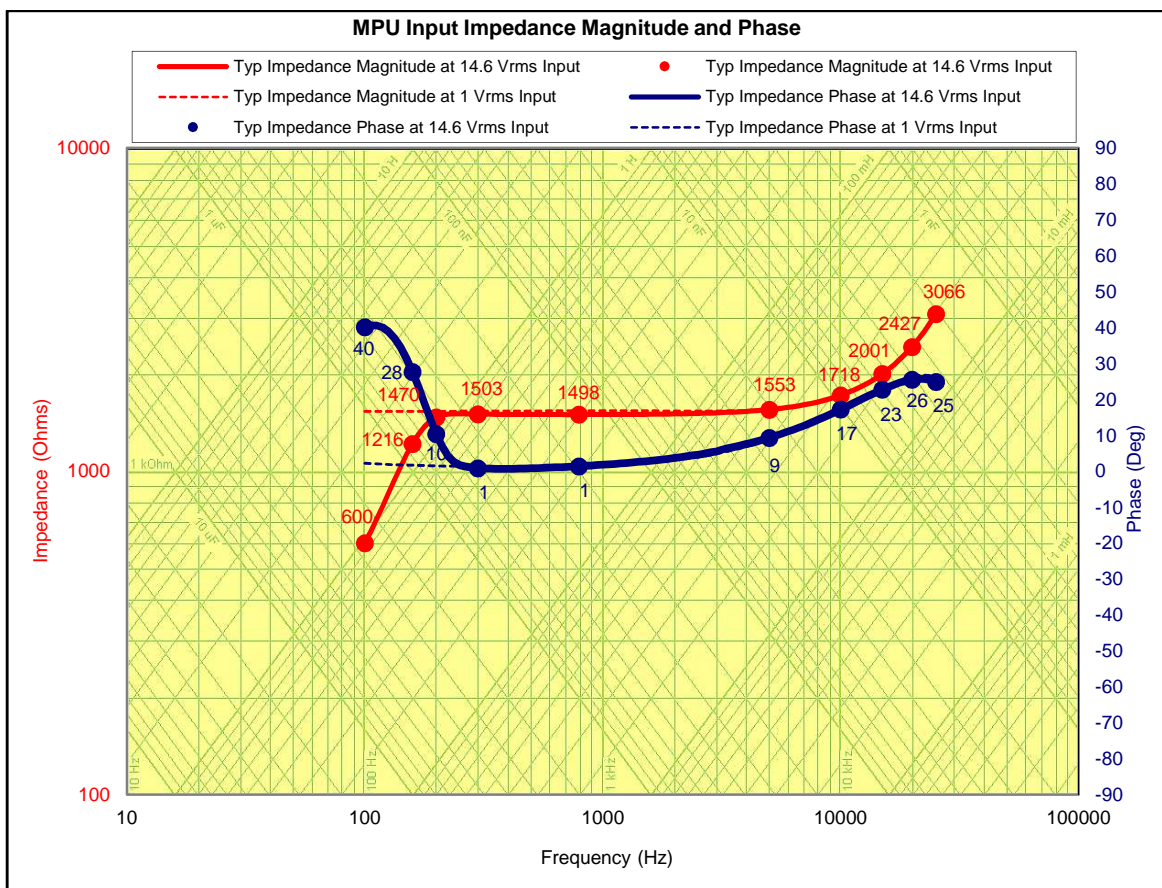

Figure 4-9. MPU Typical Input Impedance Magnitude and Phase
- Refer to Figures 4-9 and 4-10 for speed sensor wiring.